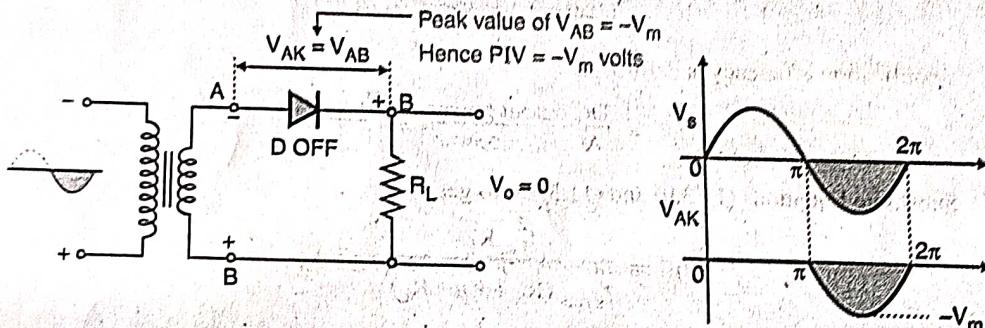

Fig. 11.3.4 : PIV of diode in HWR
- As shown in Fig. 11.3.4 the maximum negative voltage across the diode is $-V_m$ Volt, when the diode is not conducting.